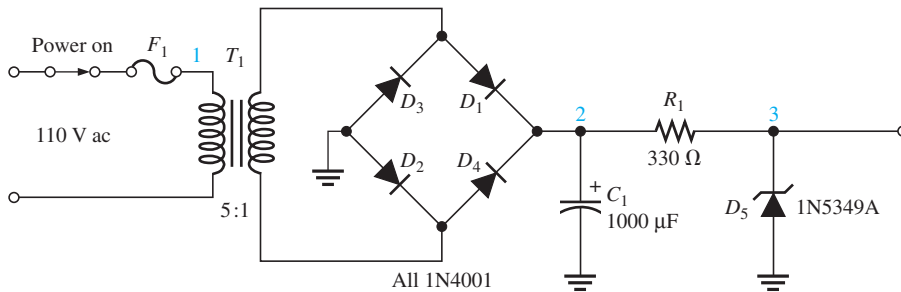

FIGURE 2–85
30. Determine the most likely failure in the circuit board of Figure 2–86 for each of the following symptoms. State the corrective action you would take in each case. The normal output of the transformer is 12.6 V ac. The regulator (IC1) is a 7812.